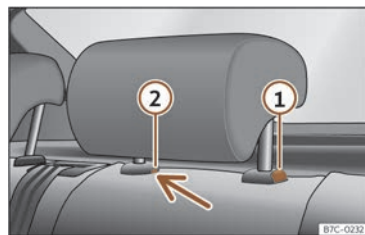

Fig. 90 Rear headrest: removal.
- Press button >>> **Fig. 90 ①**, while simultaneously pressing on the safety hole ② with a flat screwdriver a maximum of 5 mm wide, and remove the headrest.